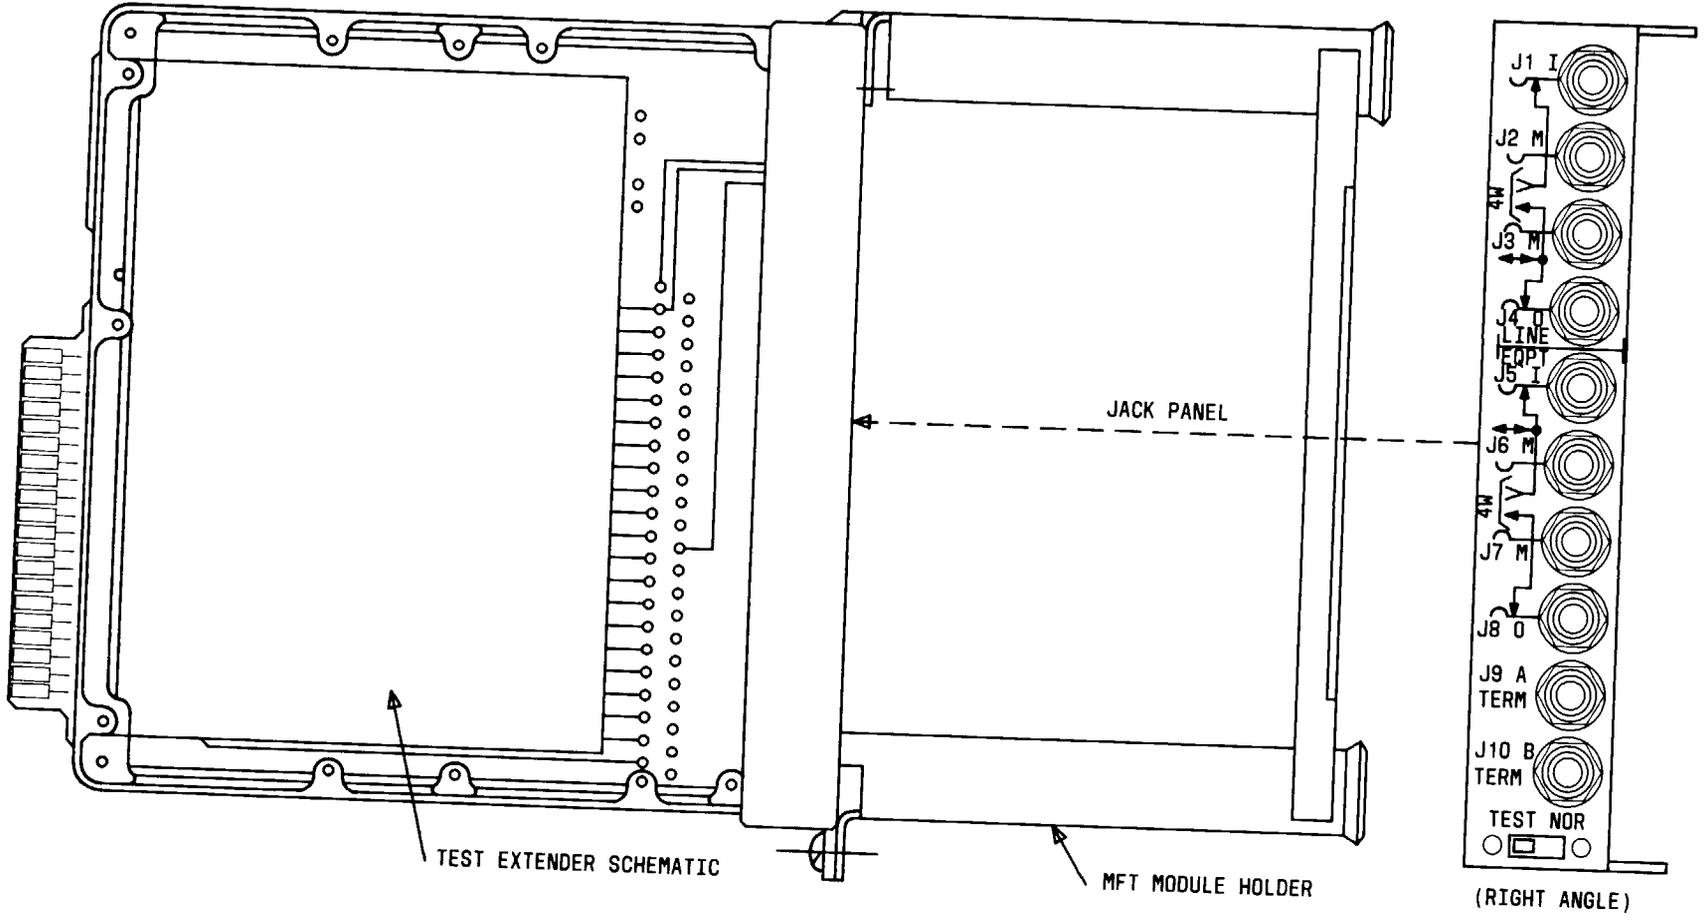

Fig. 4—J99400TA Test Extender
4.01 This test extender has been designed for use with the J99400 family of housings but can be used on any MFT shelf. This test extender provides for full extension of a powered MFT module outside the housing. This permits total access to adjustments on the MFT module under test as well as the adjustments on the test extender itself. The J99400TA Test Extender Assembly is illustrated in Fig. 4. A functional schematic decal for the test extender jack field and switches is mounted on the wiring side of the printed wiring board as an aid to the user.